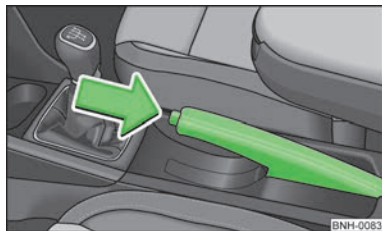

Fig. 64
- Pull the handbrake lever up slightly and **at the same time** push in the locking button » Fig. 64.